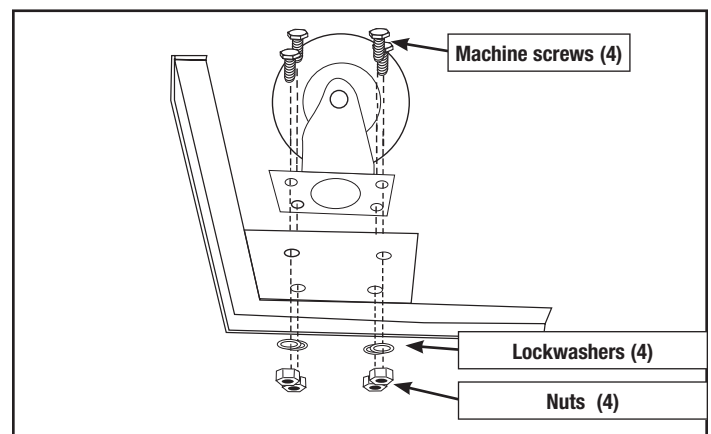

Figure 2. Attach casters to base (shown upside down for installation).
Turn the base upside down (the lip of the base facing down). Install each caster with four machine screws, four (4) lock washers and four nuts. Machine screw heads should be on the caster side of assembly to allow casters to move freely (Figure 2).